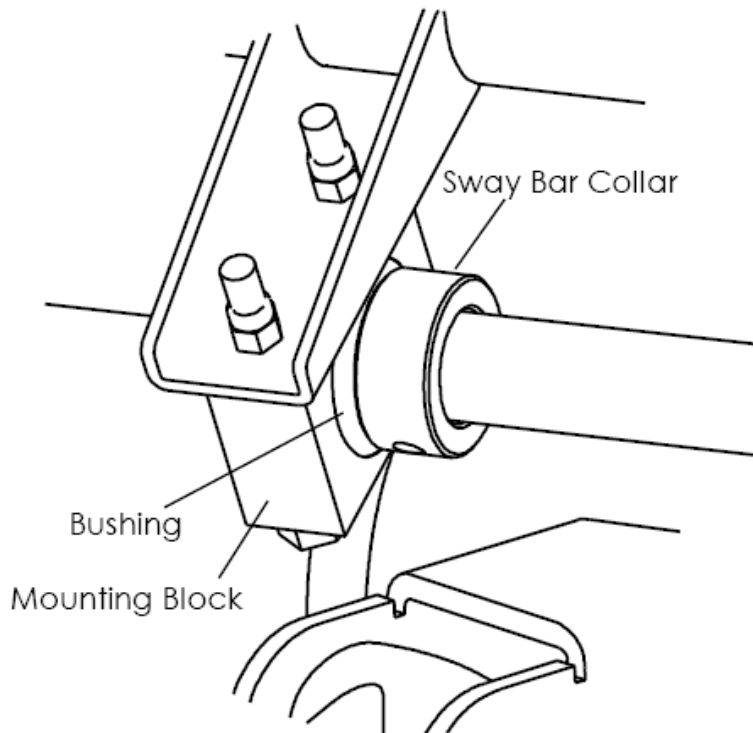

Figure 5- Mounting Blocks Install
9. Mount the mounting blocks onto the upper crossmember as shown in **Figure 5**.